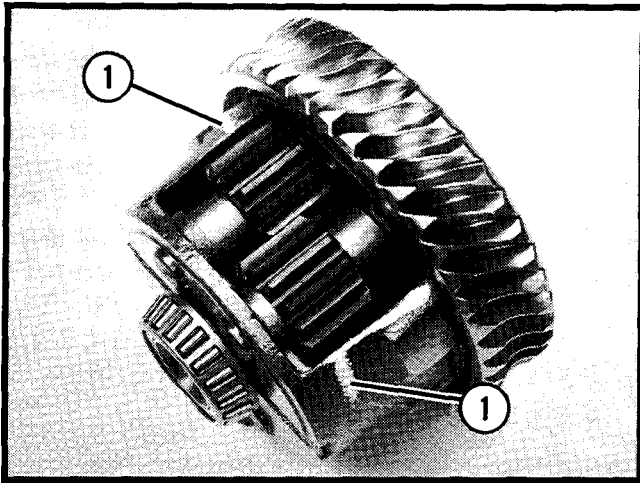

Figure 5.
1. Permanently mark (punch, stamp, etc.) the carrier housing to indicate the assembled position of the four planet gears. They **MUST** be reinstalled in the same configuration. Figure 5.